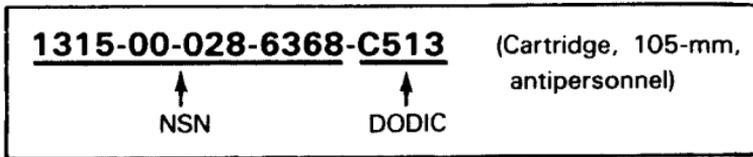

Figure D-3. Sample DODIC.
**Department of Defense Identification Code (DODIC).** A DODIC is a single letter and three numbers or two letters and two numbers in the case of small guided missiles. It is attached at the end of all NSNs to denote interchangeability of the item. Figure D-3 shows a conventional NSN with DODIC added showing interchangeability between various model numbers and the designators of an ammunition item.